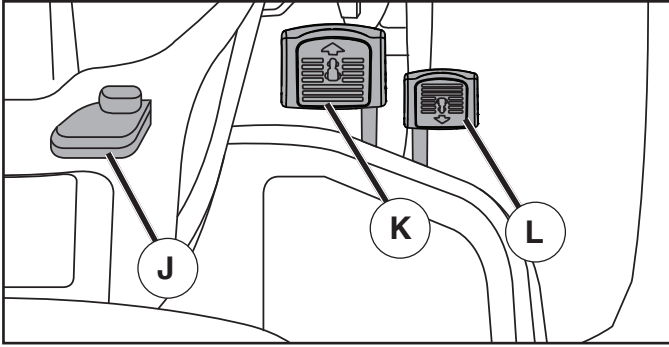

Fig. 7
### TO MOVE FORWARD AND BACKWARD (See Fig. 7)
- Slowly depress forward (K) or reverse (L) drive pedal to begin movement. Ground speed increases the further down the pedal is depressed.
### TO USE CRUISE CONTROL (J) (See Fig. 7)